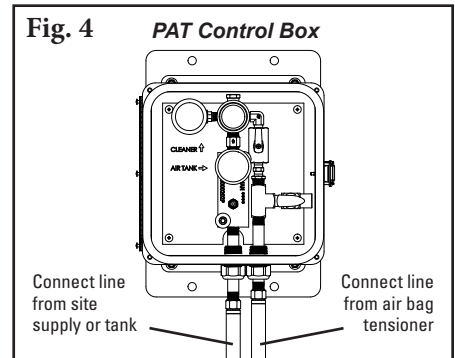

Fig. 4
4. **Set the blade tension.** With the parts supplied, attach a line to each air bag and run the lines to the outlet side of the control box (Fig. 4).